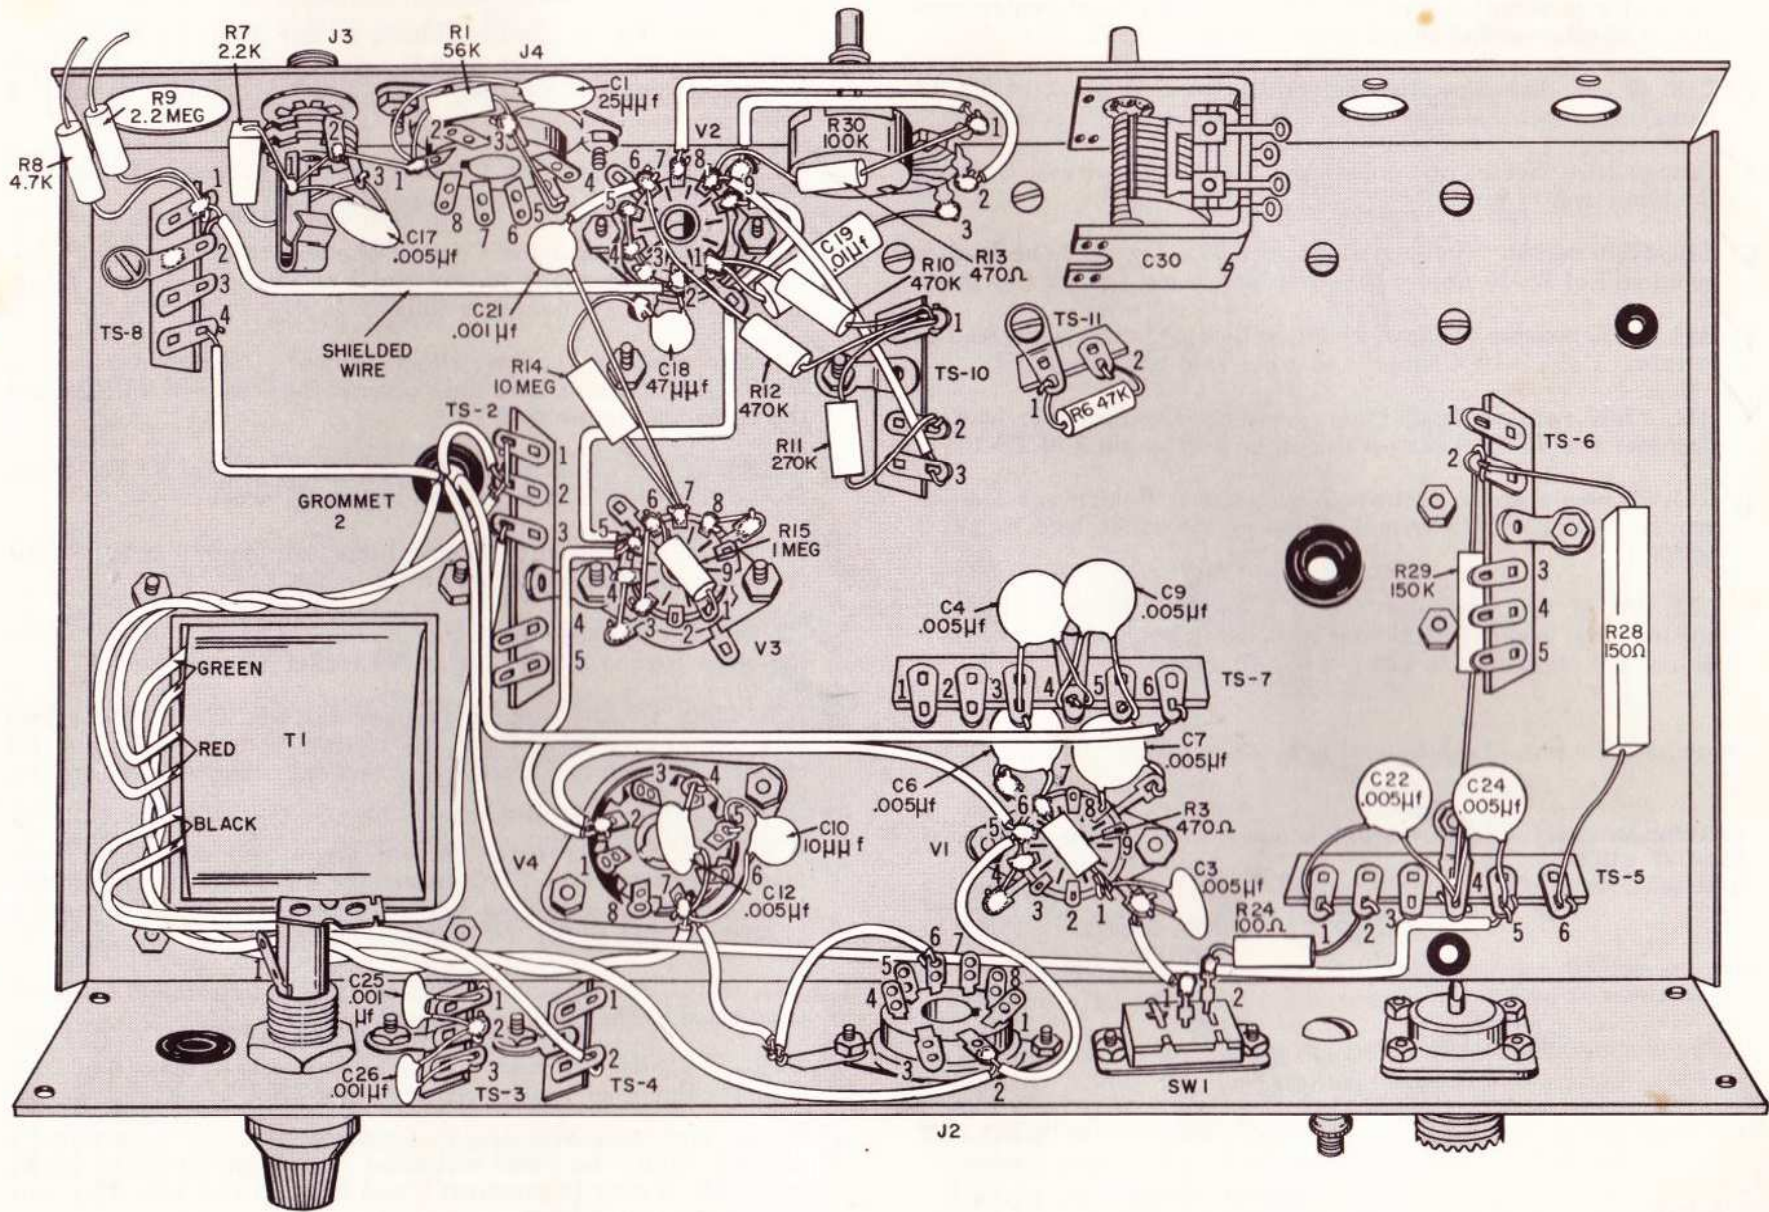

FIGURE 7
SEE FIGURE 7
✓ Refer to Figure 7. Note position of wires on power transformer (T1). Twist the two green wires and route them along chassis bottom under the fuse holder, TS-3, and TS-4. Connect one wire to pin 2 of socket J2. Connect the other wire to pin 7 of V4.
- ✓ R28, 150 Ω , 10-watt resistor (square shaped). Connect one lead to terminal 2 of TS-6. Place the resistor body flush against the chassis as shown in Figure 7. Connect the other lead to terminal 6 of TS-5.
- ✓ White wire with blue tracer. Connect one lead to terminal 5 of TS-5. Route the other end along bottom of chassis as shown in Figure 7, over to grommet 2 and through the hole. This wire will be connected later.
- Twist together the red leads from power transformer T1 as shown in Figure 7. Connect one lead to terminal 2 of TS-2.
- Gray wire. Connect one end to terminal 6 of TS-7. Route as shown in Figure 7, and pass other end through grommet 2. This wire will be connected later.